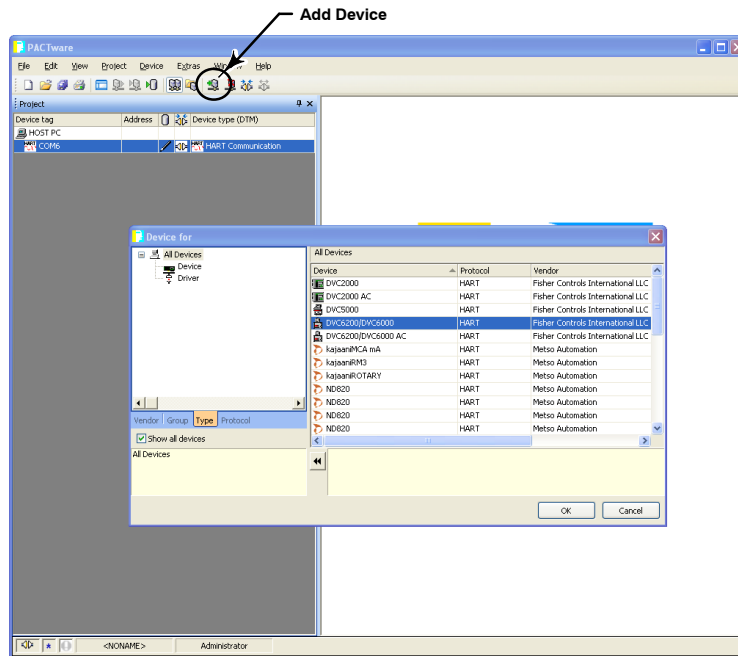

Figure 4-2. Select the DeviceDTM
Step 3: With the CommDTM highlighted, select Add Device, as shown in figure 4-2, and click on the appropriate Device DTM. Select OK.